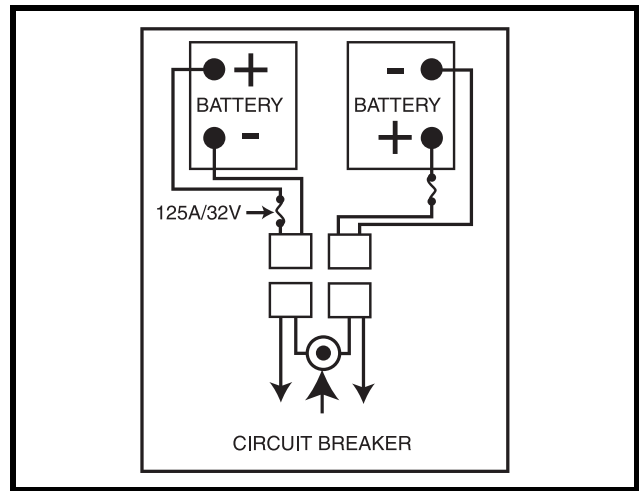

Figure 13. Battery Wiring Diagram
6. Place a new battery in each battery well. Face the battery terminals of each battery away from the seat post. See figure 13.